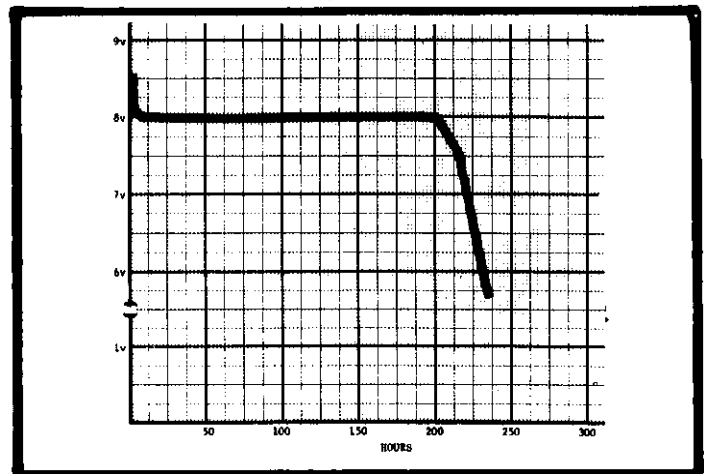

FIGURE 5. Battery Life for Model 605.
3. The mercury batteries, as used in the Model 605, have a very discernible aging characteristic (See Figure 5). During the useful life of the battery a steady voltage exists between the terminals of the battery. When the end of the cells useful life has been reached a very rapid voltage drop occurs, and the battery must be replaced.